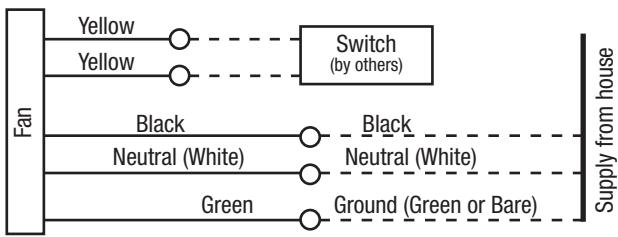

Figure 9
2. **Continuous Ventilation:** For two speed fans wired for continuous ventilation, connect the White wire of the fan to the White (Neutral) wire from the power source. Connect the ground wire from the house to the green wire from the fan housing. Run 2 wires from a properly grounded wall switch (not included) to the fan. Connect the Black wire of the fan to the Black wire (Hot) from the power source. Connect the Hot Yellow wire from the fan to the input of the switch. Connect the second Yellow wire from the fan to the output side of the switch. Closing the switch will change from normal to high speed. (**Figure 9**).